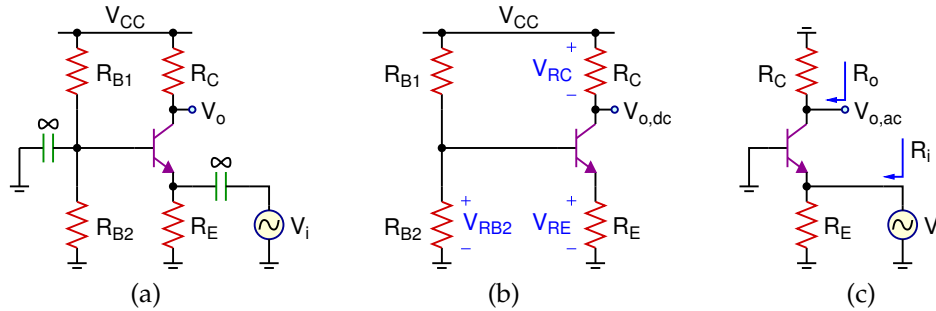

Figure 8: (a) NPN Common-Base Configuration (b) DC equivalent (c) AC equivalent
Figures 8 and 9 show the common-base configurations for NPN and PNP BJTs, respectively. Analysis of this configuration yields
- Using the same R_{B1} , R_{B2} , R_C and R_E values from your common-emitter amplifier, calculate A_v , R_i and R_o for the common-base amplifier in Fig. 8.
3. Draw the common-base amplifier schematics in Figs. 8(a) and 9(a) using the calculated component values and 2N3904 and 2N3906 transistors. For both circuits,
3. Build the common-base amplifier in Fig. 8(a) using the simulated component values and 2N3904 transistor.
5. Remove the wire short-circuiting R_C , add the bypass capacitor back to the emitter, remove R_G , and AC-ground the base through the capacitor to obtain the common-base amplifier in Fig. 8(a), then